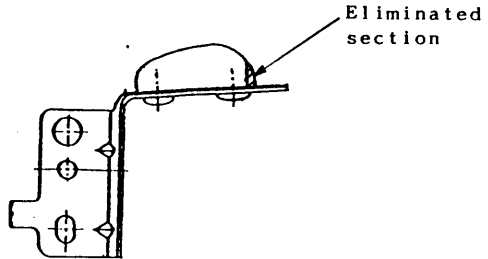

Fig. 1: Leaf spring
- A. To prevent the leaf spring from interfering with the main body block, its shaded part has been eliminated. Refer to figure 1.